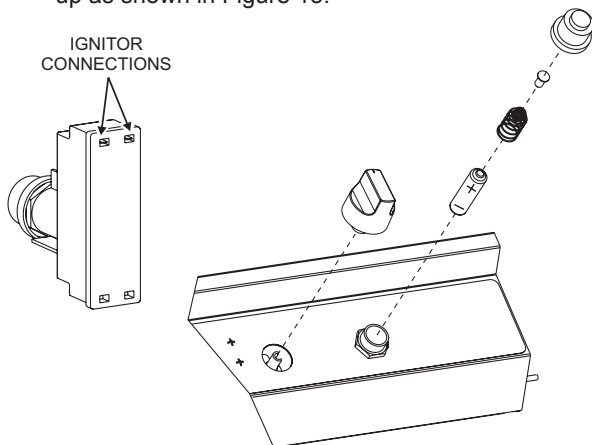

Figure 15
1. Attach ground and igniter wires to the igniter as shown in Figure 15.
2. Remove push button cap and insert AA battery, positive side up as shown in Figure 15.